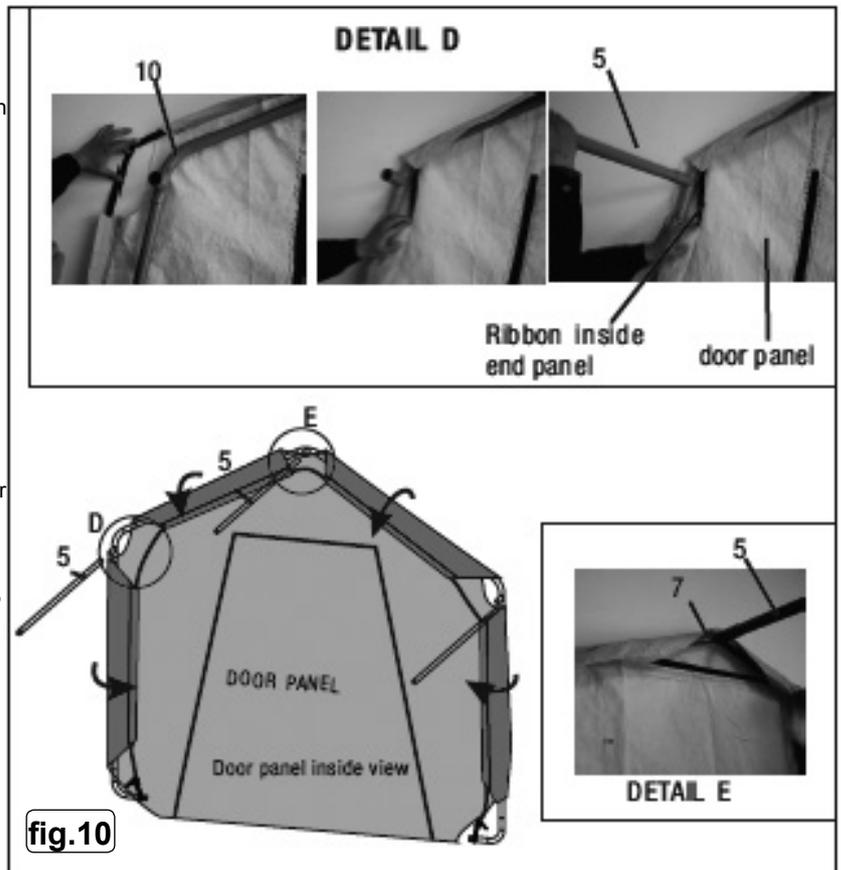

fig.10
- 4.7.7. Slip the webbed belt between pipe 5 and the connector as shown in fig.10. Rejoin the pipes.